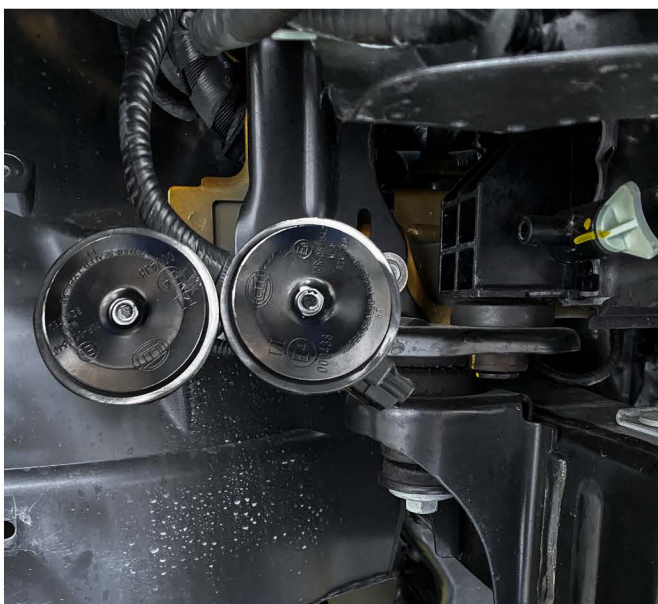

Fig.17
17. Install OE horn as shown in fig 17. and fix using OE bolts.